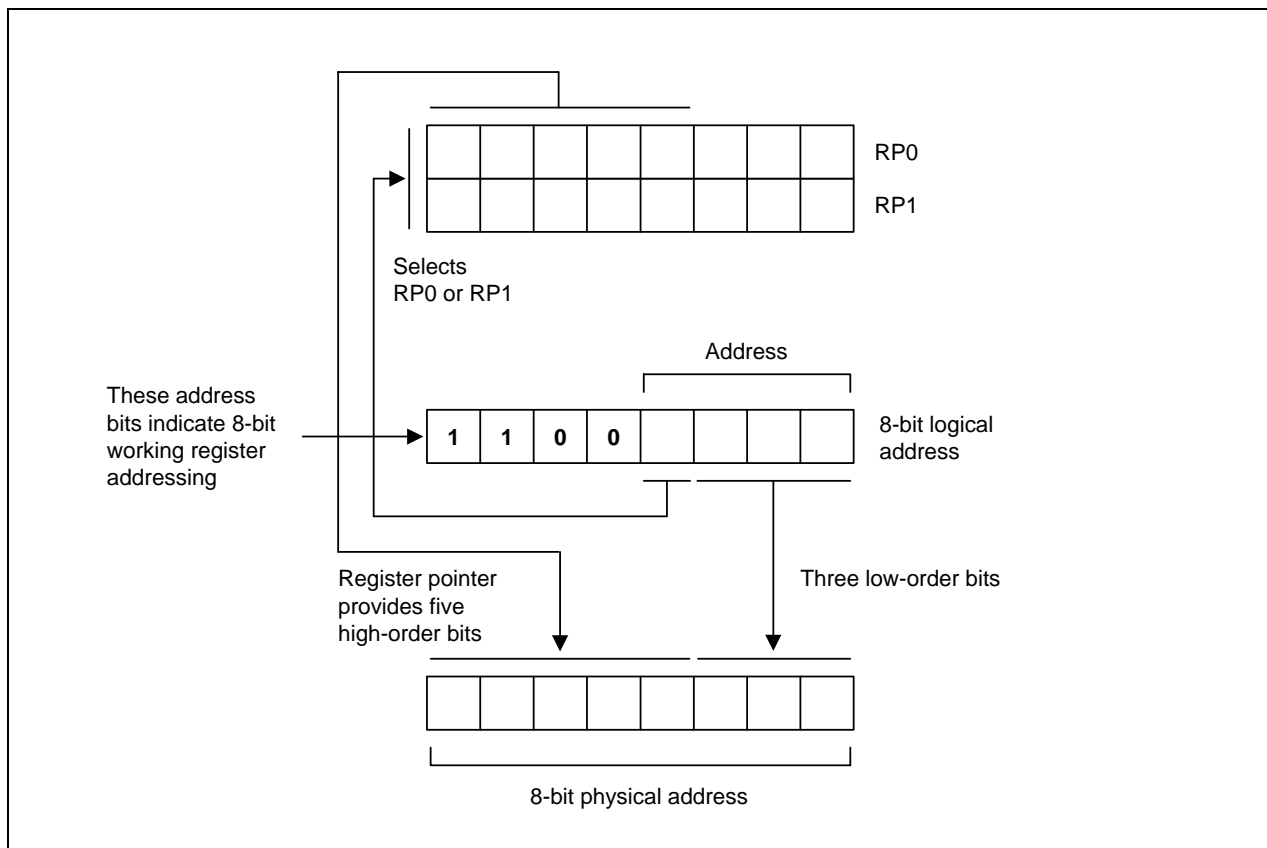

Figure 2-14. 8-Bit Working Register Addressing
Figure 2-14 shows an example of 8-bit working register addressing. The four high-order bits of the instruction address (1100B) specify 8-bit working register addressing. Bit 3 ("1") selects RP1 and the five high-order bits in RP1 (10101B) become the five high-order bits of the register address. The three low-order bits of the register address (011) are provided by the three low-order bits of the 8-bit instruction address. The five-address bits from RP1 and the three address bits from the instruction are concatenated to form the complete register address, 0ABH (10101011B).